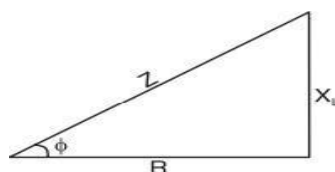

Fig. 12.5
- (ii) Power factor =  $\frac{R}{Z} = \frac{\text{Resistance}}{\text{Impedance}}$  [See Fig. 12.5]